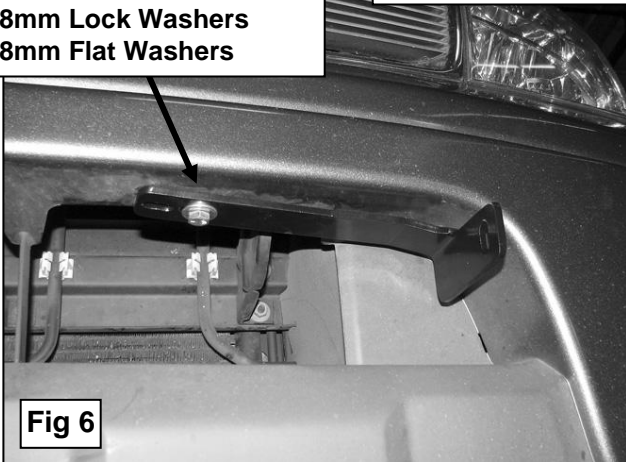

Fig 6
6. Line up the hole in the Top Bracket, **(see Figure 5 to determine correct Top Bracket)** with the Nut Plate and secure the Top Bracket with (1) 8mm x 25mm Hex Bolt, (1) 8mm Flat Washer and (1) 8mm Lock Washer, **(Figure 6)**. **NOTE:** Two slotted holes are provided to allow for proper fit to the vehicle. Snug but do not tighten hardware at this time. Repeat this step for the passenger side Top Bracket installation.